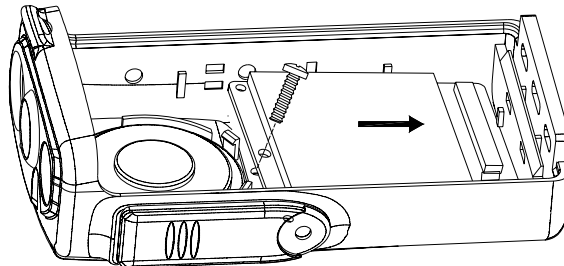

Fig.8
- c. Tighten the screws. (See fig.8)